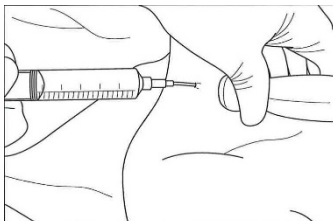

Fig 4
- Attach a 20 cc syringe to the hub of the catheter and inject test dose (up to 5ml) of local anesthetic while maintaining continued visualization with ultrasound (Fig. 4). Inject additional solution, with intermittent aspiration, to confirm appropriate spread of solution through catheter. Reposition catheter as needed to obtain appropriate spread of solution.